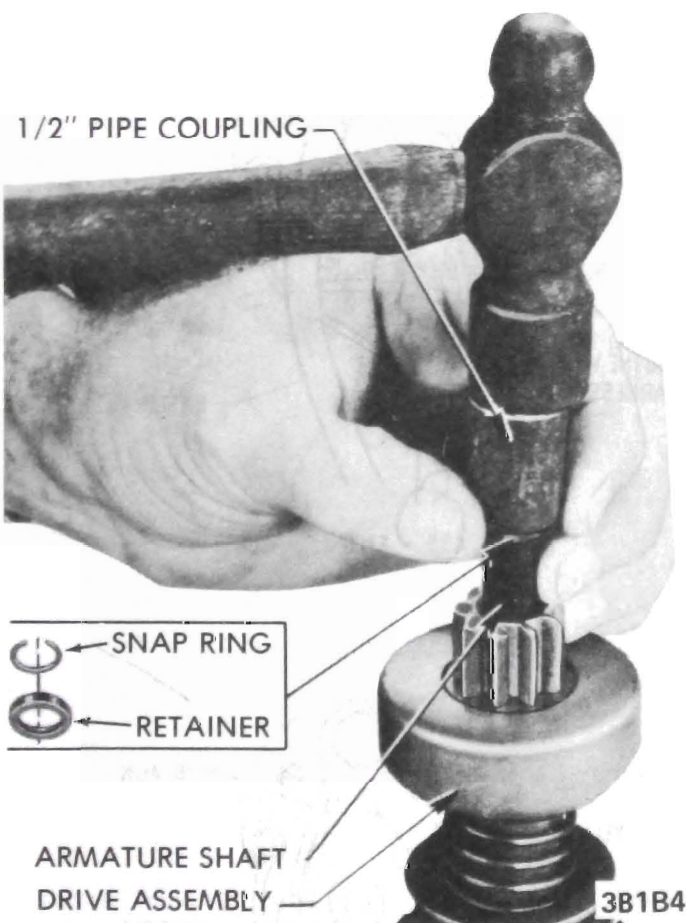

Figure 1B-4 Removing Snap Ring and Retainer
6. Remove drive assembly from armature by first using a suitable tool to disengage snap ring retainer from snap ring then remove snap ring, retainer and slide drive assembly off armature shaft. See Figure 1B-4.